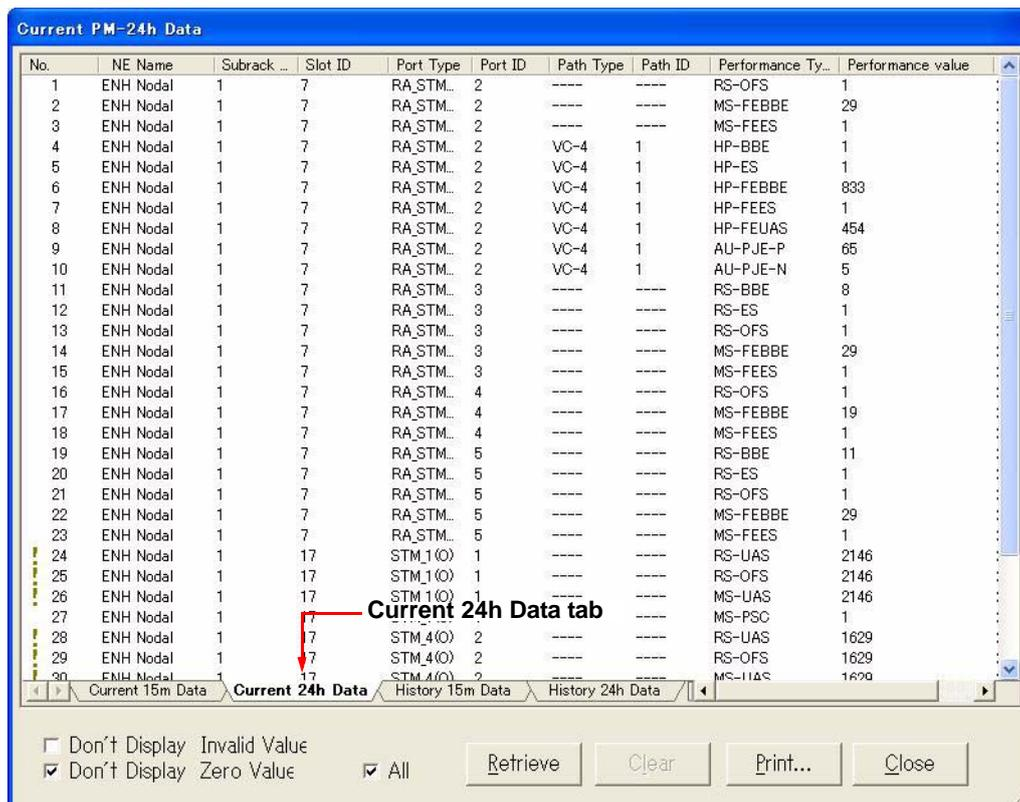

Fig. 4-7-16 Performance View -- Current 24h Data
- 4 Click the **Current 24h Data** tab on the dialog box to switch the window. *Fig. 4-7-16* shows an example where the **Current 24h Data** tab is selected: